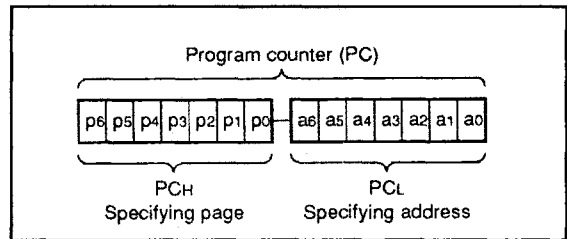

Fig. 7 Program counter (PC) structure
(8) Program counter (PC)
Program counter (PC) is used to specify a ROM address (page and address). It determines a sequence in which instructions stored in ROM are read. It is a binary counter that increments the number of instruction bytes each time an instruction is executed. However, the value changes to a specified address when branch instructions, subroutine call instructions, return instructions, or the table reference instruction (TABP p) is executed. Program counter consists of PCH (most significant bit to bit 7) which specifies to a ROM page and PCL (bits 6 to 0) which specifies an address within a page. After it reaches the last address (address 127) of a page, it specifies address 0 of the next page (Figure 7). Make sure that the PCH does not specify after the last page of the built-in ROM.